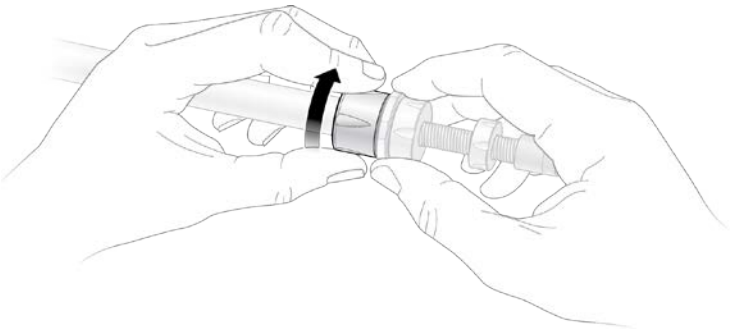

Fig. 6. Remove the retainer.
5. Unscrew the upper retainer. Let it rest on the bottom retainer (Figure 6).